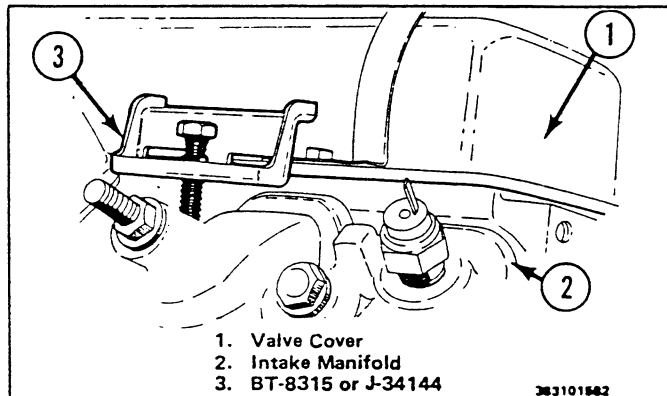

Fig. 14 Installing Tool
5. Tighten the screw to apply a load on the cover (Fig. 14).